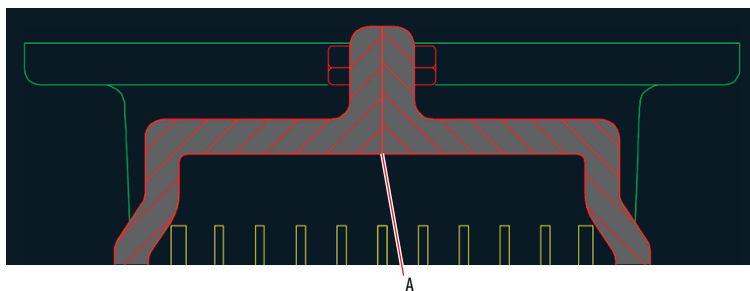

FIGURE 8.16 Changing the angle and setting the origin of an individual
3. Select the upper-right hatch pattern, type **90** in the Angle text box, and press the Tab key. Click the Set Origin button, and then click point A shown in Figure 8.16. Press Esc to exit the ribbon's Hatch Editor tab.
4. Select the hatch pattern on the left side, click the Set Origin button, click point A as shown in Figure 8.16, and press Esc. The outer patterns on the left and right both meet symmetrically at point A.